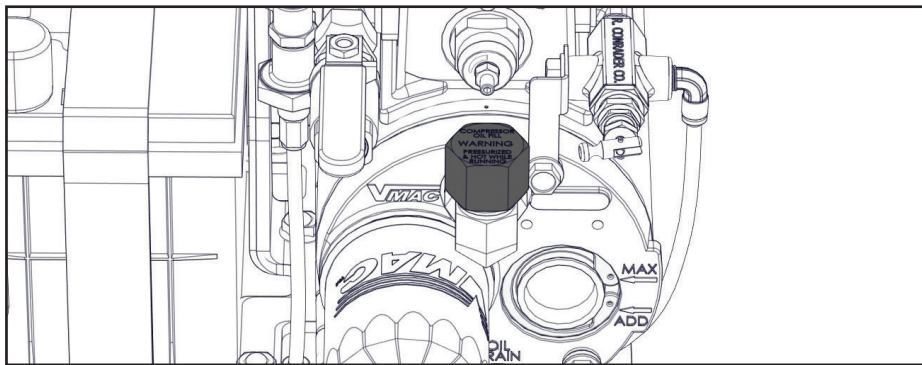

Figure 39 — Compressor oil fill
- ☐ Remove the filler cap on the WHASP Tank. Fill the WHASP Tank with VMAC compressor oil until it reaches the "MAX" mark. The air compressor system holds approximately 4 L (1 USG) of oil (Figure 39).